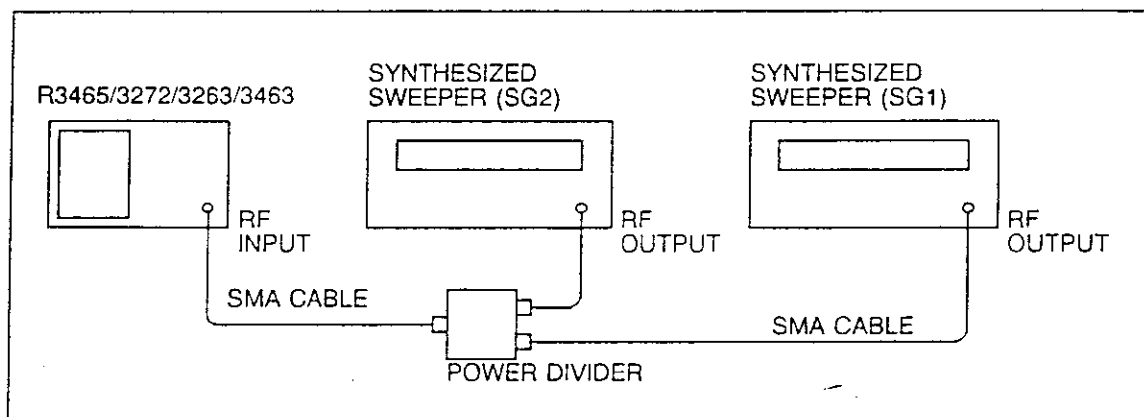

Figure 1-11 Third Order Intermodulation (<2 GHz) Test Setup
- (1) Select Divider 1 and connect the units as shown in Figure 1-11.
- (2) Press the INSTR PRESET key on each synthesized sweeper. Set each of the synthesized sweeper controls as follows: